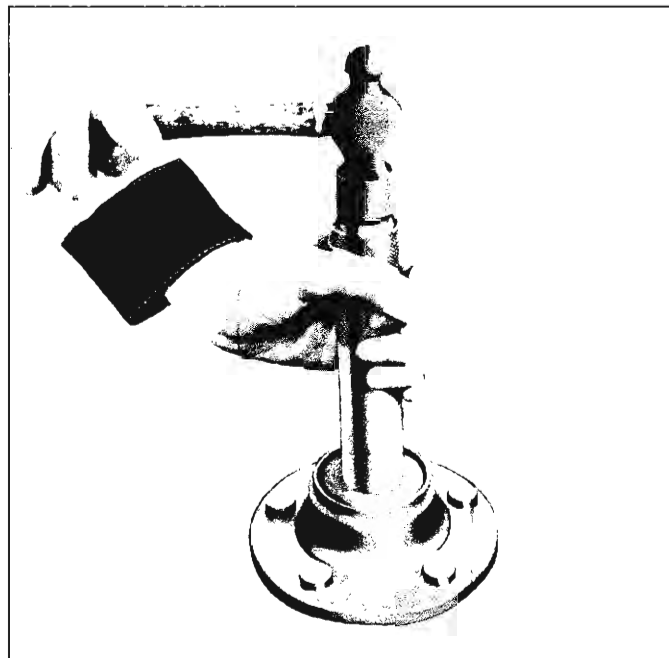

Fig. 6—Installing Bearing Cups
4. Install new bearing cup in hub using Tool J-8849 on the outer and Tool J-8850 on the inner cup (fig. 6). Use driver handle J-8092 with the installers. Make sure that the bearing cups are not cocked and are fully seated against shoulder in hub.